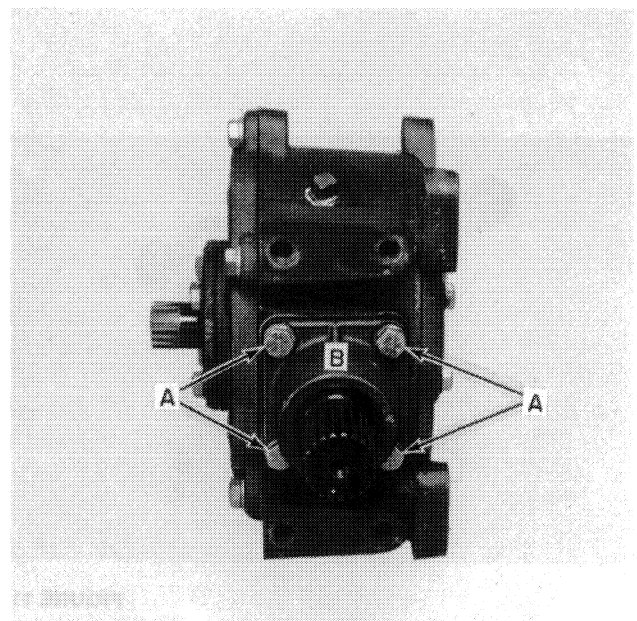

FIGURE 9
3. Remove cap screws, A, Figure 9, and slide the bearing housing, B, off the shaft. The seals and needle bearings in this housing can be replaced if necessary.